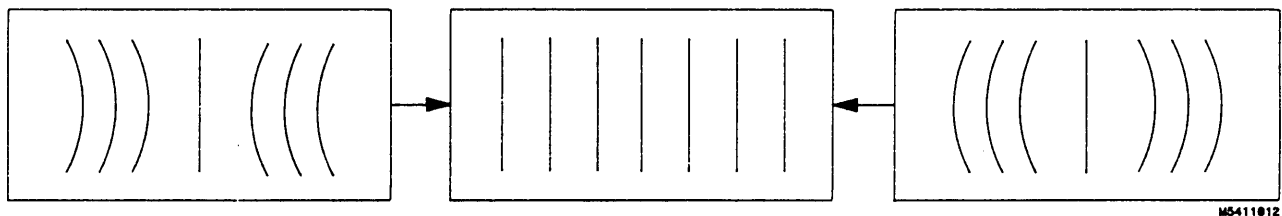

Figure 4-12. PIN AMP Adjustment.
7. Adjust PIN AMP (RV506), located on left hand side PC board, to eliminate pincushion distortion in the vertical lines of the cross-hatch pattern as shown in figure 4-12.